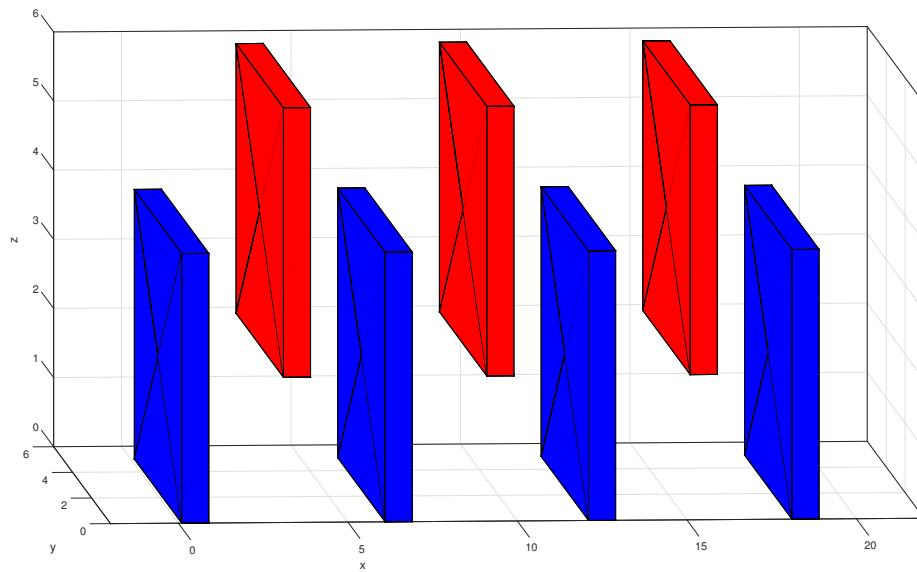

Figure 6: Complex structure that the MAV should navigate while avoiding collision.
- Design a trajectory for the MAV to start from position (-5,2,0) and arrive to position (22,2,0), while avoiding obstacles in Figure 6. You can access the map by running “run.m” in Task4 folder and adding map1.txt” to loadmap line.